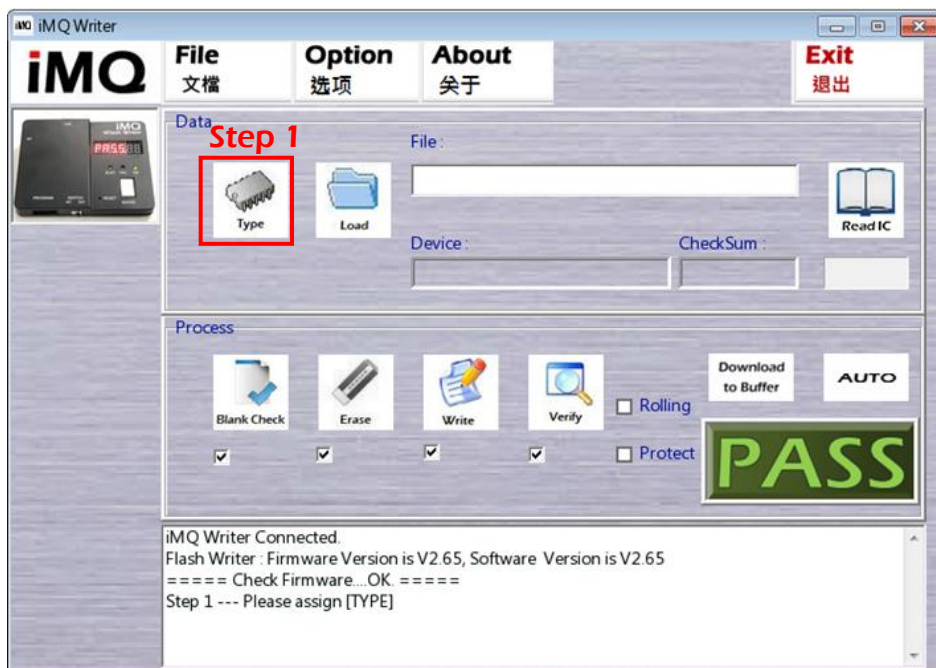
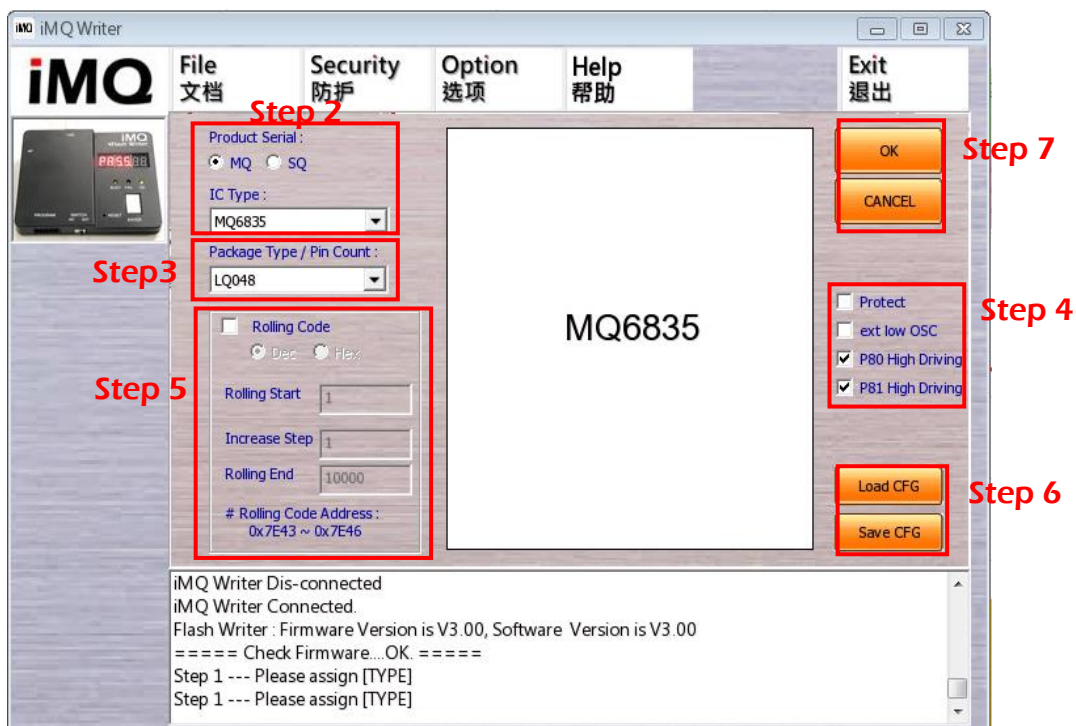

Figure 5-3 Select Type
Figure 5-4 IC parameter Setting
Step 1: Press the "Type" button in Figure 5-3, and the IC parameter setting page appears, as shown in Figure 5-4.
Step 2: See Figure 5-4, first click the **(Product Serial)**, and then select the **(IC Type)**.
Step 3: See Figure 5-4, select the **(Package Type/Pin Count)**, please click the drop-down menu, for example, MQ6812 has LQFP32 (LO032) or QFN032 (QN032) or SOP28 (SP028) or SSOP28 (SS028) options.
In addition, if you want to use the previously saved settings, press the "Type" button and the IC parameter setting page appears. You can press "Load CFG" at the bottom right shown in Figure 5-4 to recall the previous setting file.